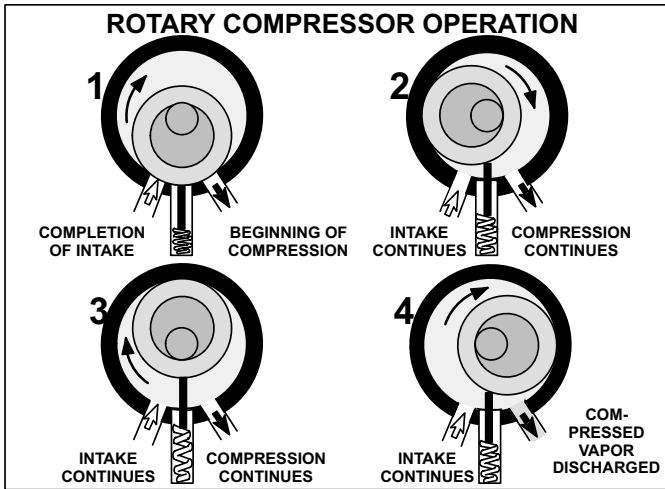

FIGURE 3
Figure 3 illustrates the four steps in a rotary compressor cycle. The spring-loaded blade is compressed fully at the beginning of an exhaust cycle. At this instant the compression is beginning (1). The roller rotates and compression continues (2). When the blade is fully extended the suction port is separated from the discharge port (3). Intake continues and the compressed vapor is discharged (4). A rotary compressor has a continuous intake cycle.